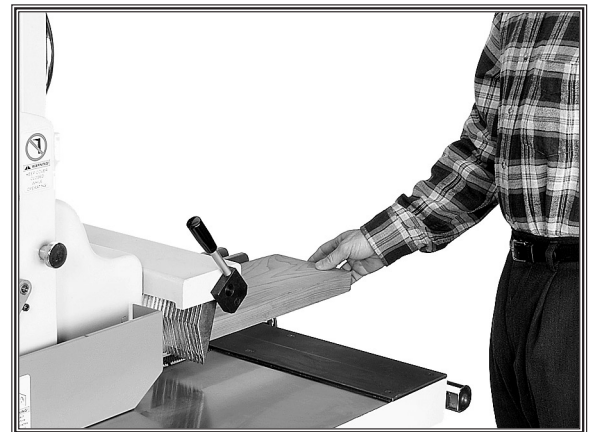

Figure 26. Rip cutting operation.
15. Step to one side of the cutting path, and place the workpiece firmly against the fence as you feed it onto the conveyor and into the blade (see **Figure 26**).